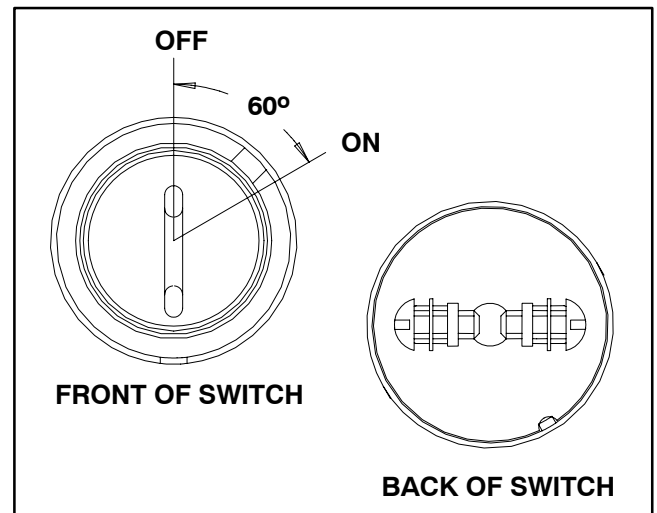

Figure 31
2. The switch terminals are shown in Figure 31. When the key is in the ON position, continuity should exist between the two terminals. In the OFF position, there should be no continuity between the switch terminals.